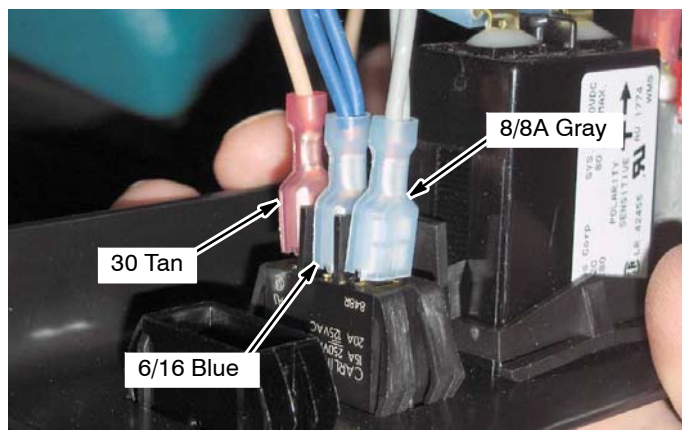

Fig. 33
11. Connect wires 8/8A Gray, 6/16 Blue and 30 Tan to the ec-H2O on/off Switch as shown (Figure 33).